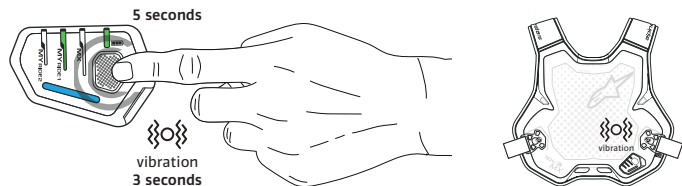

Figure 11: Press the Display Button (3a) for 5 seconds to Switch Off the System (this is an alternative method for turning off the System)
To keep the System turned off, make sure the Activation Buckle (2) remains unfastened as shown in Figure 11.